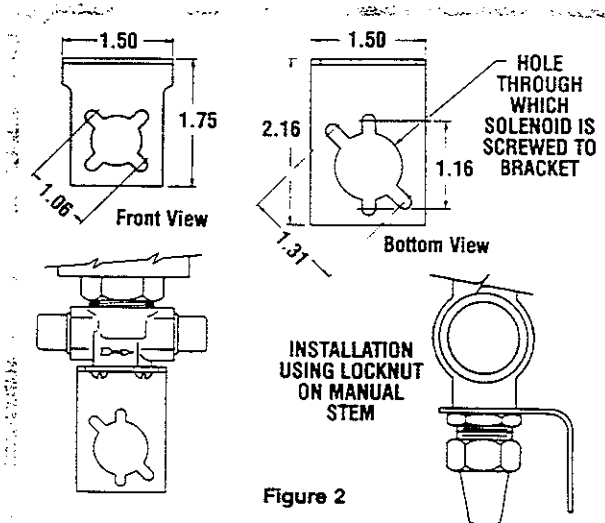

Figure 2
Mounting — A Type 1216-1 universal mounting bracket, Figure 2, is available, when ordered. It fits all standard Sporian Solenoid Valves except the Types W3, MA32, B33, E33, E34, E42, MA42, MA50, (K)(B)R183, (K)(B)R184, (K)(B)R246 series and the Type 180 Solenoid Pilot Control. The slots in the bracket will match the tapped holes in the standard solenoid valves so that they may be secured by two screws supplied with the bracket. A locknut is also furnished for use with Types MA5A3 and MA17A3. Both types of installations are shown in Figure 2. The manual lift stem seal cap is replaced after the locknut is tightened against the bracket.